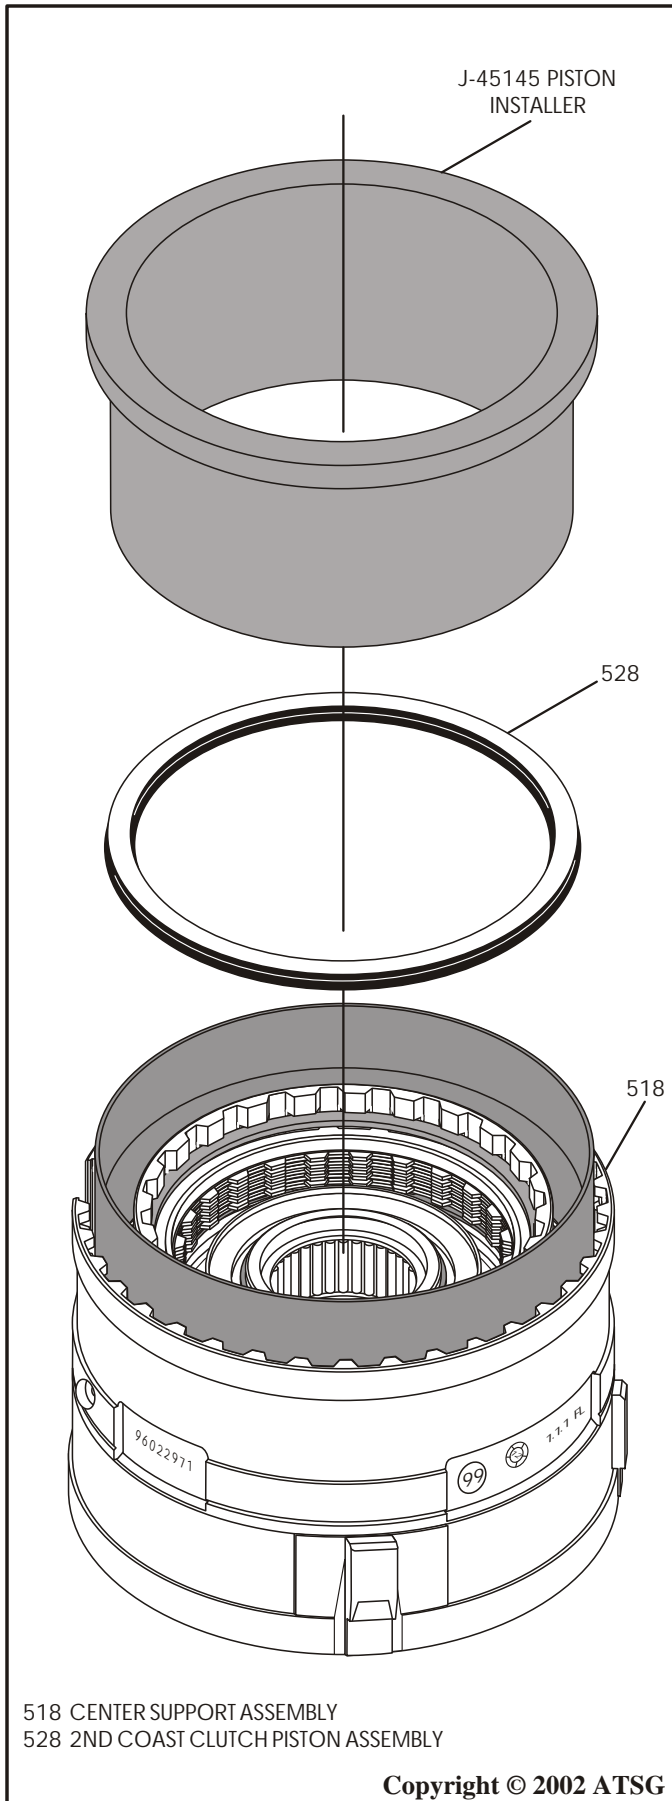

Figure 145
29. Lubricate the 2nd coast clutch piston seals with small amount of Trans-Jel® and install the 2nd coast clutch piston into the center support using the J-45145 installation tool (See Figure 145).